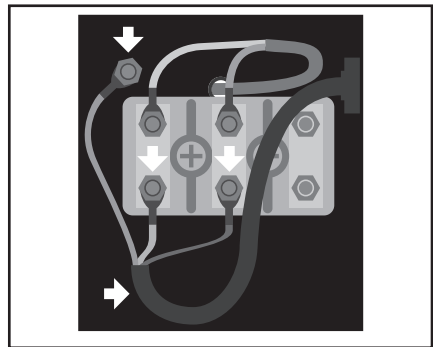

Fig. 19
6. Connect the 3-wire supply cable from control unit (Fig. 19).